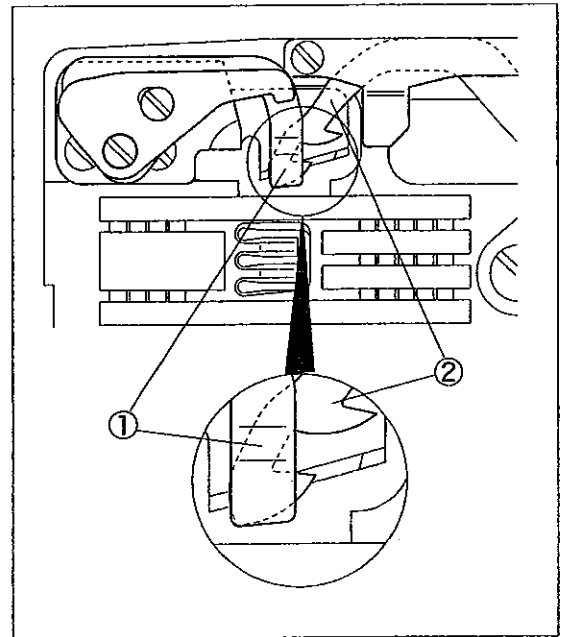

Fig.32
Make adjustment on the direction "Y" to match the tip of the movable trimming knife② with the tip of the thread clamp① and tighten the screw⑤, after the movable knife returned. (Fig. 32)